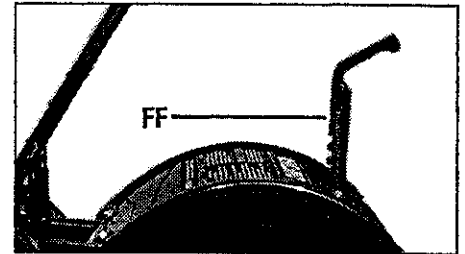

Fig. 2-10: Adjust Depth Regulator Lever.
1. With the tiller on level ground, pull the Depth Regulator Lever (FF, Fig. 2-10) back and then move it up or down until the tiller is level.
2. With the tiller on level ground, move the Depth Regulator Lever (FF, Fig. 2-10) up or down until the engine is level.